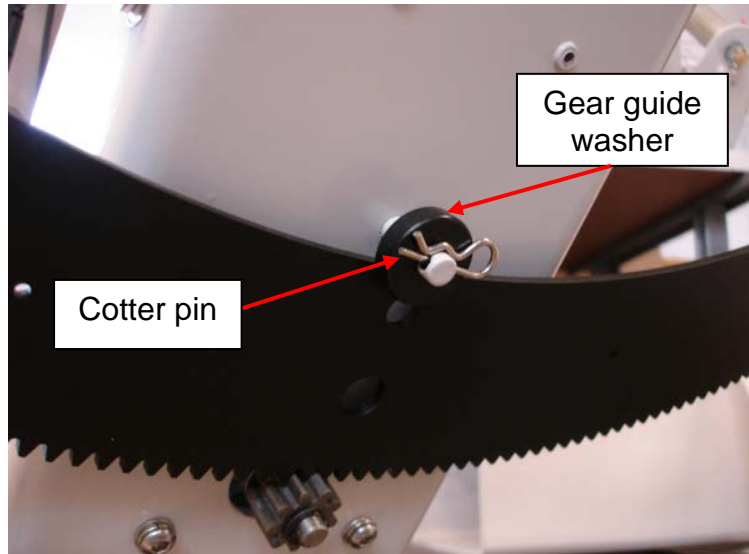

Figure 5
5. Install gear guide washer and cotter pin (from Mount Hardware package) on frame clevis pin. See Figure 5.